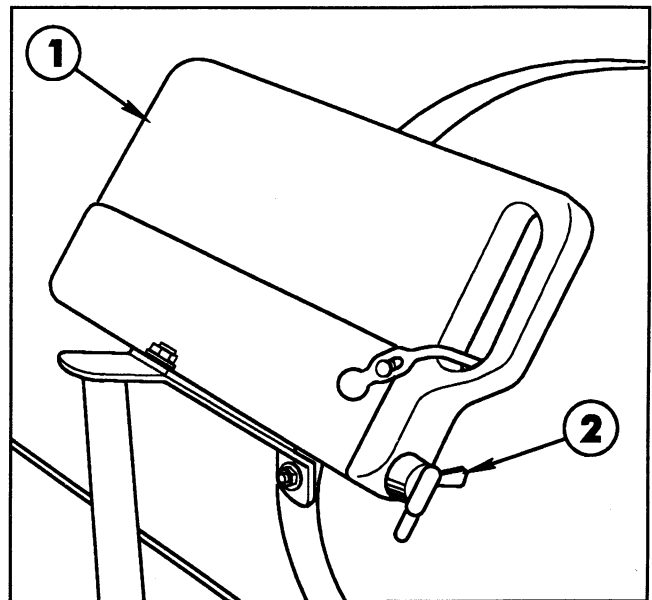

FIG. 4
1. Turn Tank Spigot to on position. See FIG. 4.